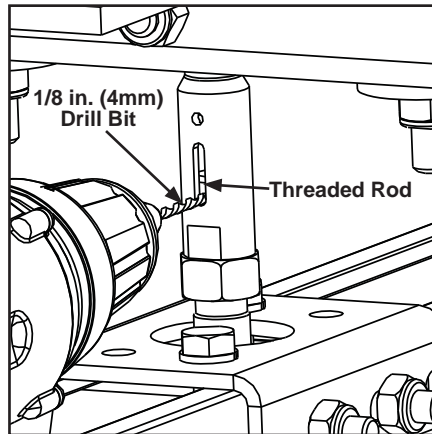
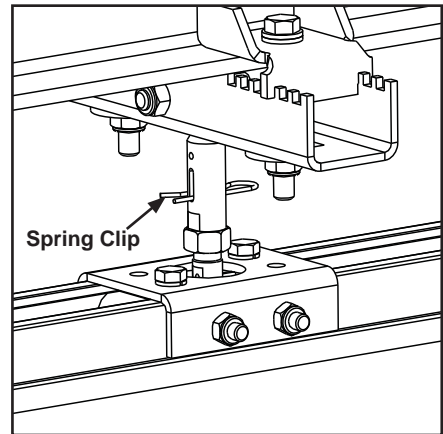

Figure 3-58
Figure 3-59
- Step 6. Drill into threaded rod through thread slot with a 1/8 in (4 mm) drill bit and insert spring clip. See Figure 3-58 and Figure 3-59.